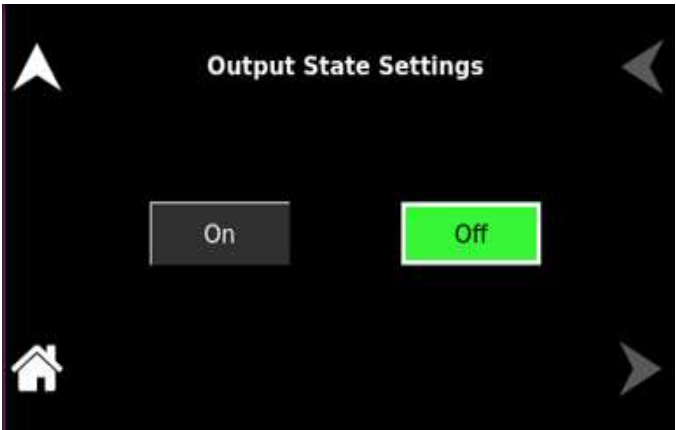

Figure 10-22. Output State Settings
**Output State** Users can program the output to ON or OFF state. Refer to Figure 10-22.